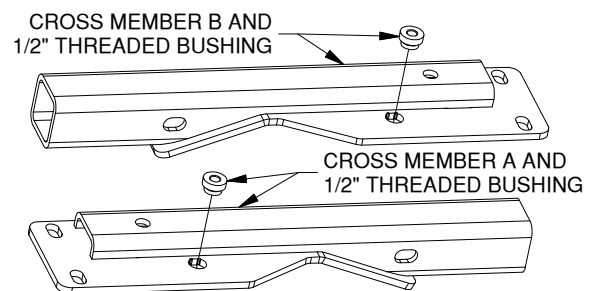

Figure C1: Cross members
- 1. Install threaded bushings.** Install a 1/2" threaded bushing into each of the four cross members. Align each bushing into the "D" shaped hole on top of each cross member and tap or press the bushing into the hole. The rim of the bushing must be flat against the cross member, see Figure C1. Do not damage threads.